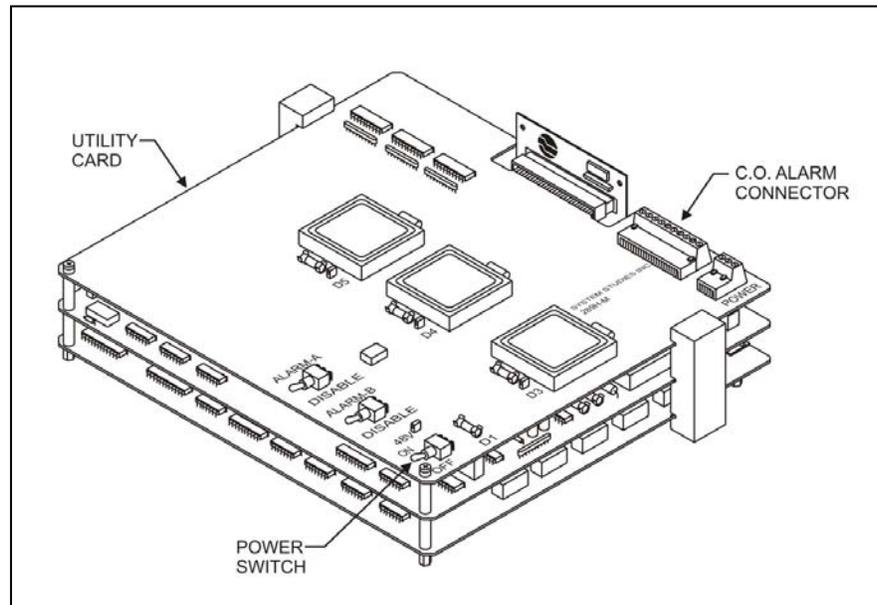

FIGURE 5-1: 289H-M LSS POWER SWITCH LOCATION
1. Check to see if the power supply indicator light on the right front of the monitor is lit. If it is, remove the front panel of the chassis and set the ON/OFF switch on the Utility Card to the OFF (right) position. This ON/OFF switch is located near the front right corner of the top circuit board, as shown in FIGURE 5-1. (Please note that the Utility Card shown in FIGURE 5-1 is the older, “non-tone” model.)